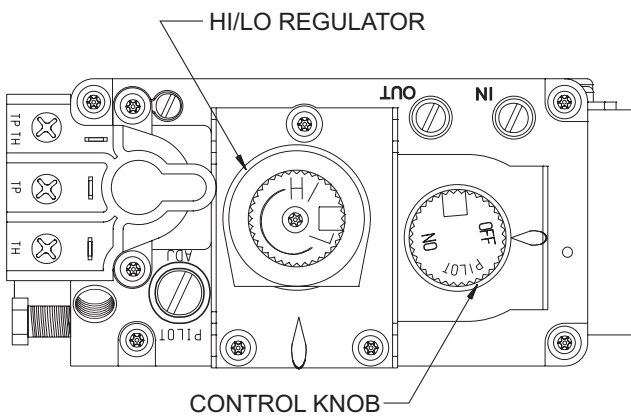

Figure 58
**NOTE:** The gas control valve allows you to increase or decrease the height of the main burner flame. The control valve has a pressure regulator with a knob as shown in Figure 58. Rotate the knob clockwise to “HI” to increase the flame height and counterclockwise to “LO” to decrease the flame height.